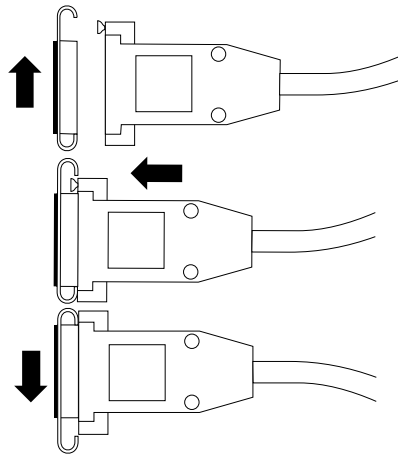

Figure 2-12 Connecting the Ethernet Cable
9. If you are using a network, attach the Ethernet cable, as shown in Figure 2-12.